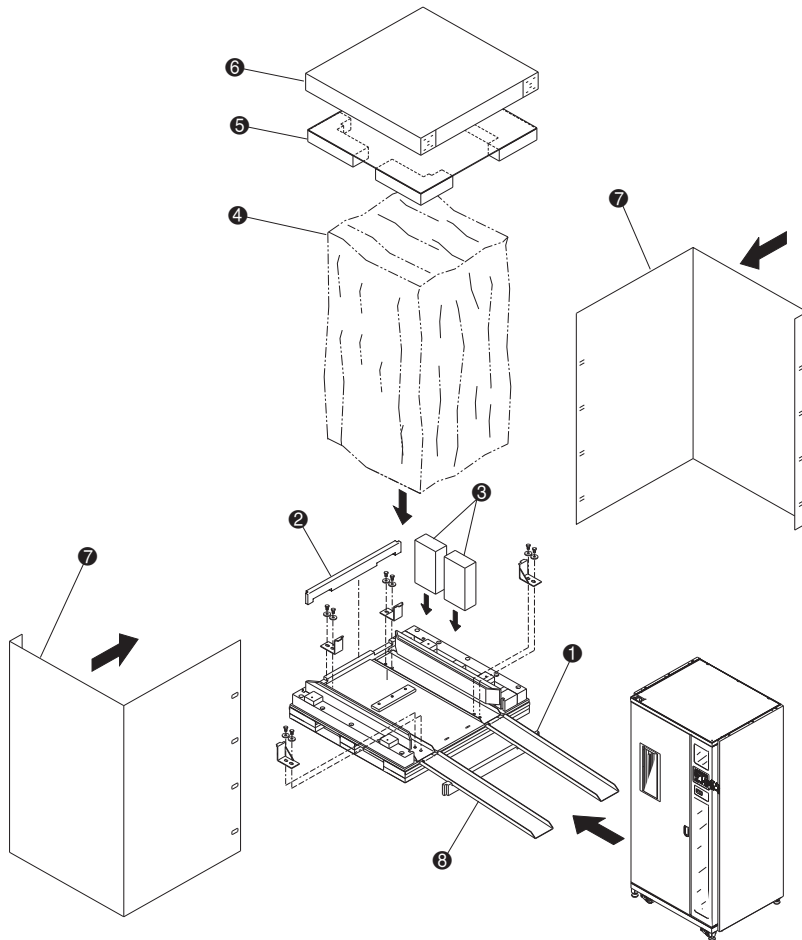

Figure C-2. Crating the library (ESL9198 shown)
3. Secure the library (see Figure C-2).